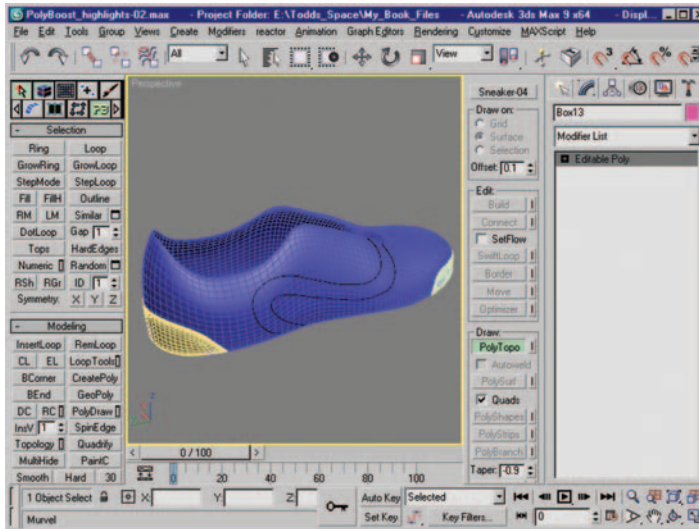

Figure 12.37 Second line drawn on sneaker surface.
5. Draw a second line with a similar shape, as seen in Figure 12.37.